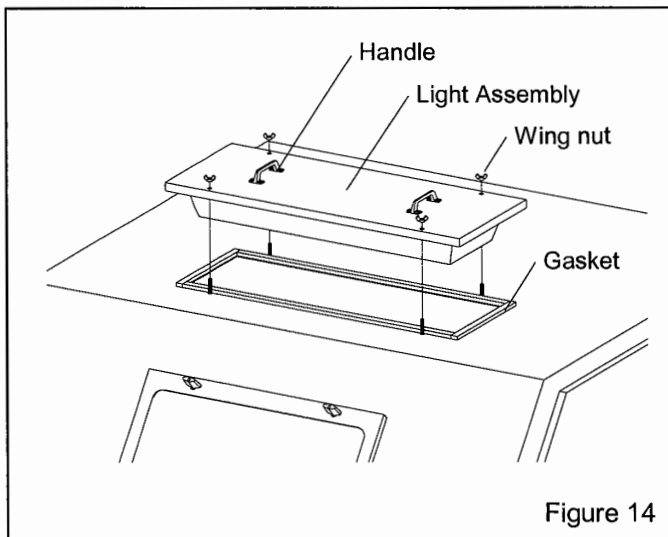

Figure 14
7.6.2.1 Remove the four holding wing nuts, and use the handles to lift the fixture off the cabinet, as shown in Figure 14.
7.6.2.3 Lay a section of strip gasket next to the opening, and cut to length, allowing 3/4" overlap on each end. Peel a short section of adhesive backing, and adhere the strip gasket to the top edge of the light opening, as shown in Figure 14. Press the gasket tightly to bond.